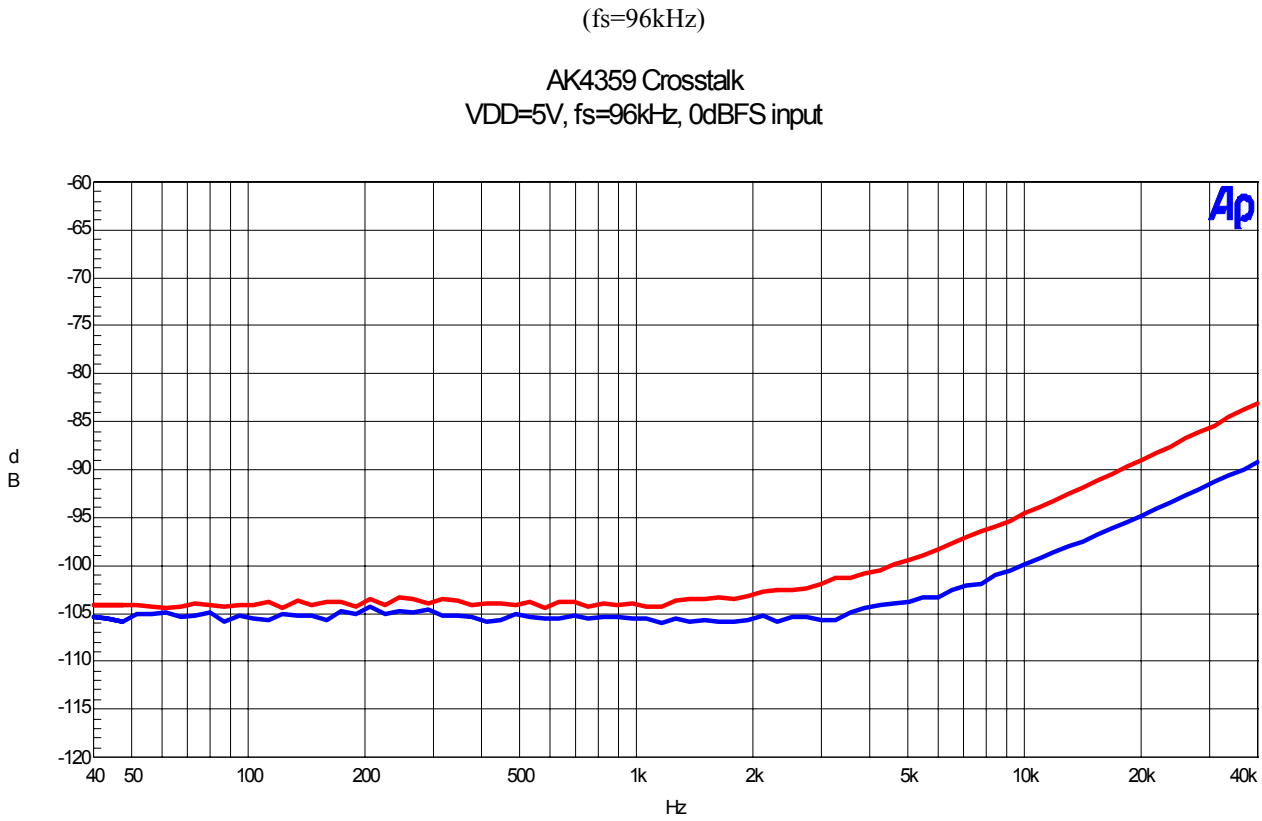

Figure21. Cross-talk (Input level=0dBFS)
- Figure21. Cross-talk (Input level=0dBFS)